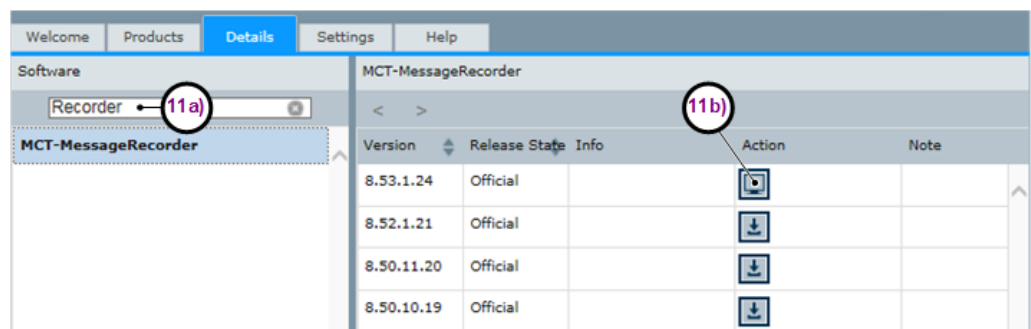

Fig. 10-4: MCT Message Recorder download at the Installation Manager
11. Download the MCT-Message Recorder (Fig. 10-4):